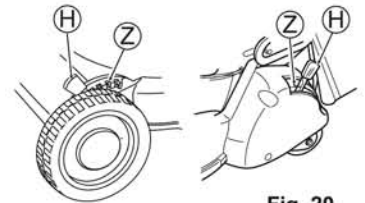

Fig. 20
2. Lean the mowing height adjustment lever (H) toward the wheel side, separating from the notches (dents) (Z). (See Figs. 20 and 21)